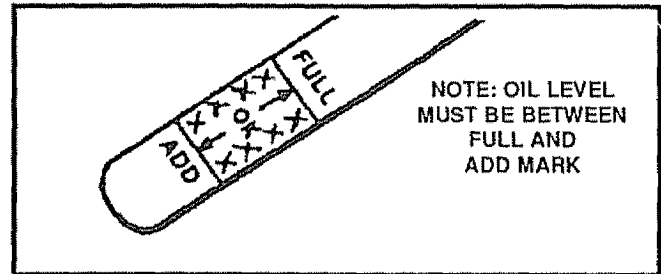

FIG. 17
Check the crankcase oil level (See Fig. 17) before starting the engine and after each five (5) hours of continuous use. Add S.A.E. 10W-30 motor oil or equivalent. Tighten the fill cap/dipstick securely each time you check the oil level. S.A.E. 5W-30 motor oil may be used to make starting easier in areas where the temperature is consistently 20° F. or lower.